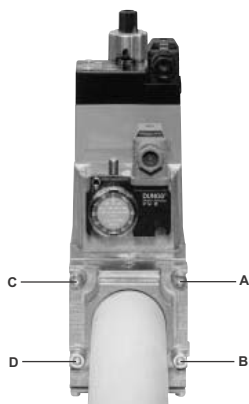
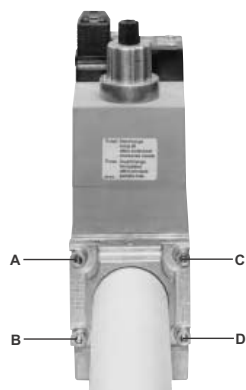

Fig. 5
Fig. 6
1. Loosen screws A and B **do not** unscrew (Fig. 5 - Fig. 6).
2. unscrew screws C and D (Fig. 5 - Fig. 6).
3. Remove MultiBloc between the threaded flanges (Fig. 6).